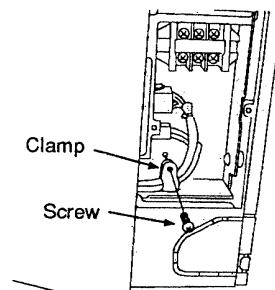

Fig. 1b
- b) Unscrew the clamp for the wiring connector. (Fig. 1b)